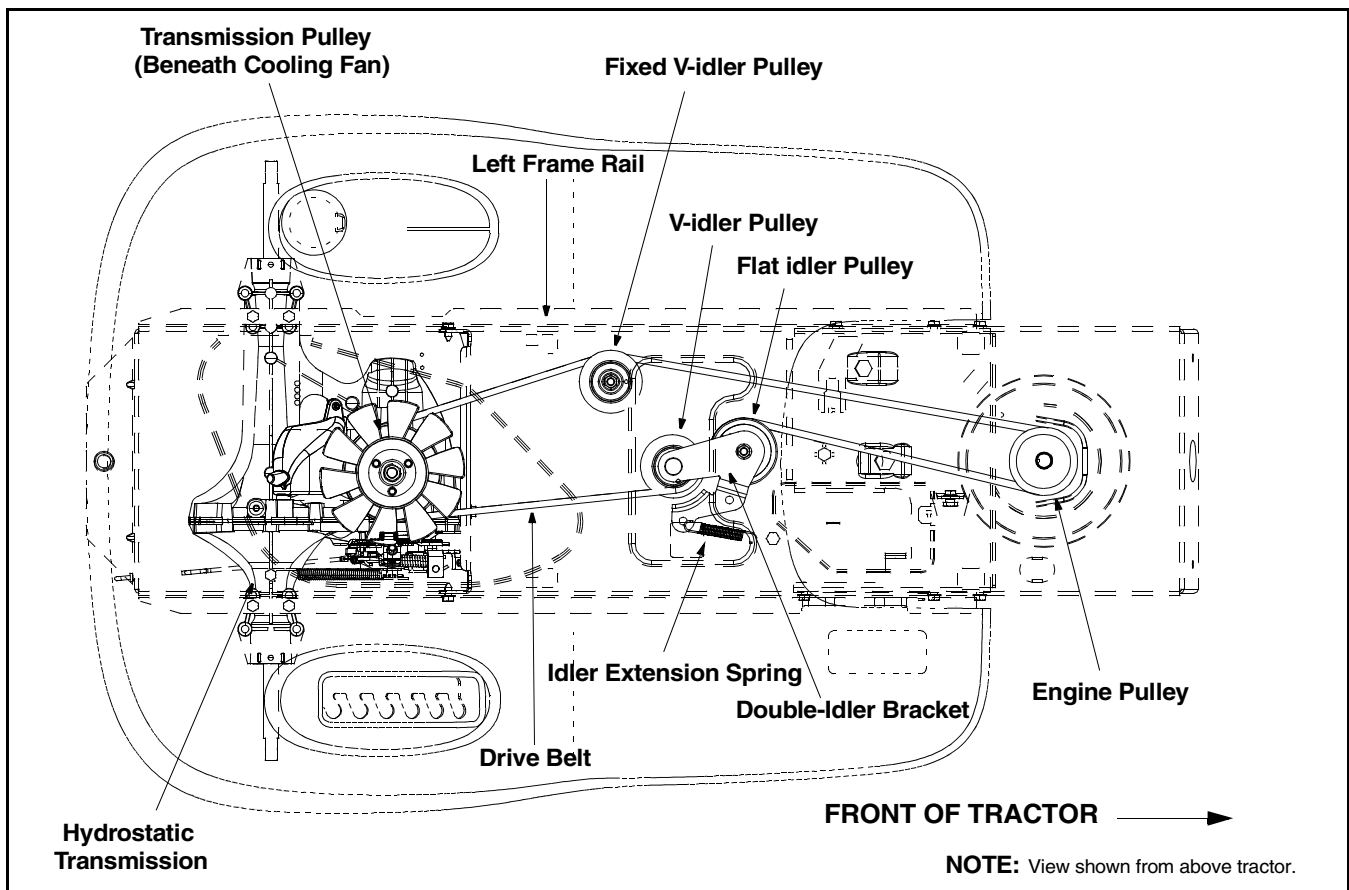

Figure 17
- Locate the fixed v-idler pulley found on the left underside of the frame. See Figure 17.
- Grasp the belt on both sides of the pulley and gently move it toward the left frame rail allowing it to unseat itself from the fixed v-idler. See Figure 17.
- Remove the drive belt by feeding it from front to rear, toward the hydrostatic transmission. See Figure 17.
- Reroute the new belt around the pulleys and belt keepers, if present, **EXACTLY** as the old one was routed. Refer to Figure 17.